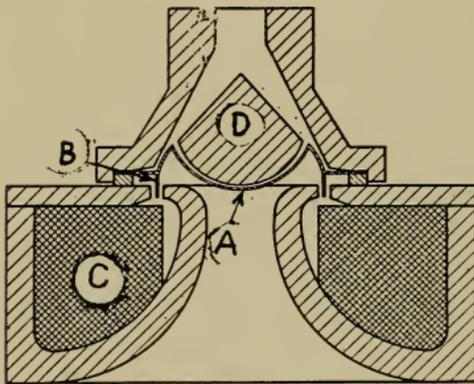
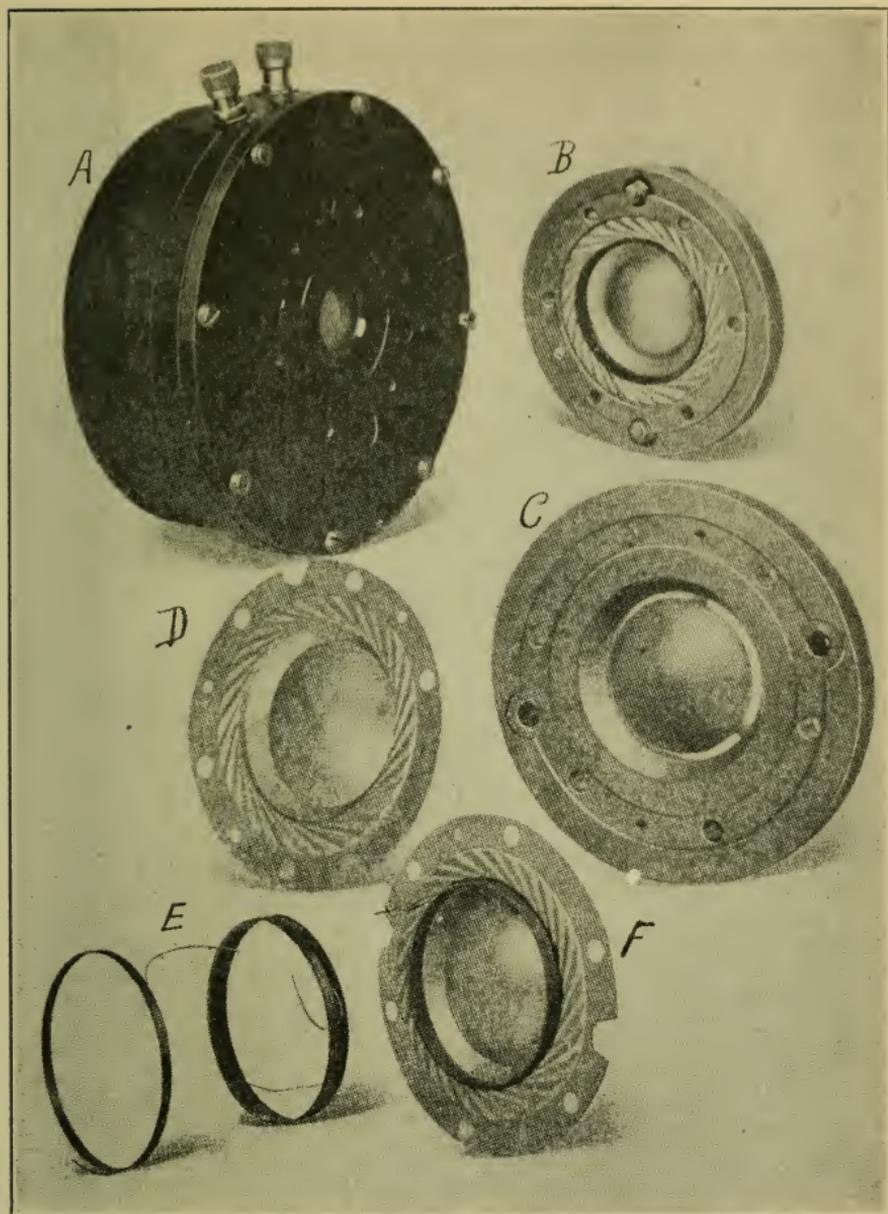

Figure 397.
Figure 399.
THE RECEIVER.—First we will consider the receiver, a diagrammatic cut-away view of which we have in Fig. 397. This explanation of the receiver is not made with any idea that the projectionist will ever be called upon to repair or adjust receivers, but from the broad viewpoint that men should have an understanding of the construction and the functioning of
Diaphragm A, Fig. 397, is made from very thin aluminum alloy. Its central portion is cupped into portions of two spherical surfaces, as you may see by examining
Driving coil B, Fig. 397, is composed of a single layer of aluminum ribbon, wound edgewise. It is attached to the lower extension of diaphragm A, Fig. 397, as is shown at B D E, Fig. 399. It reacts between the pole pieces between which it is located, which later are energized by main field coil C, Fig. 397, which is itself energized by a twelve (12) volt storage battery, and by such reaction operates or drives the receiver diaphragm.
Diaphragm A, Fig. 397, is cupped in order to provide stiffness or rigidity sufficient in amount to enable it to move against the air column of the horn as a solid plunger, which it does. This has the advantage of securing maximum efficiency and uniformity of air action by moving the entire area of the base of the air column as a unit.